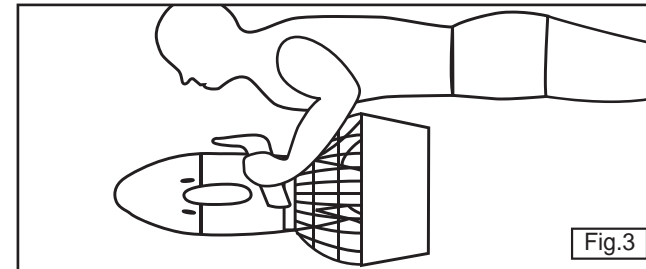

Fig.3
8. Proper posture when using the SEA-DOO® SEASCOOTER™ VS Supercharged is important to achieve the maximum speed - see figure 3 for the correct position of the SEA-DOO® SEASCOOTER™ VS Supercharged when using it.